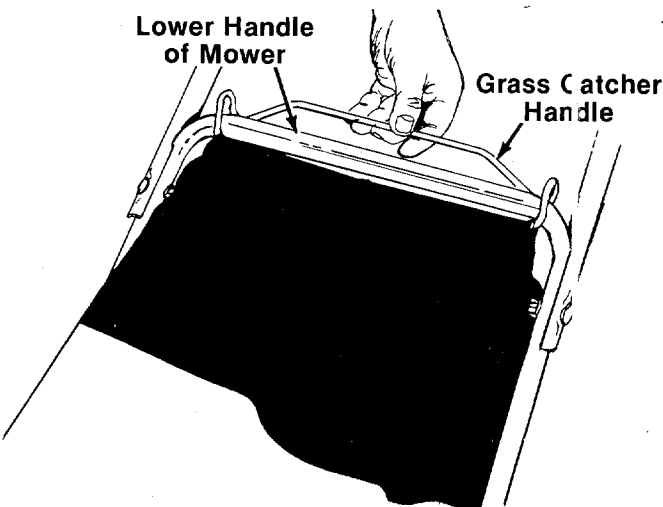

FIGURE 20.
3. Hook the handle on the rear of the grass catcher over the lower handle of the mower. See figure 20.